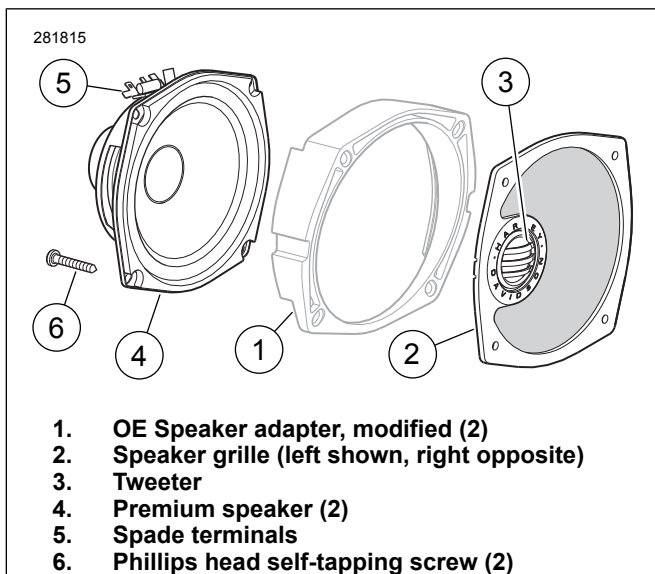

Figure 1. Boom! Audio Front Speaker Kit Components for Electra Glide and Trike
2. See Figure 1. Position the correct **new** speaker grille (2) against the face of the adapter (1) as shown, with the thick edge of the adapter **up**, and the tweeter (3) to the outboard side of the vehicle. Feed the tweeter wires out between the tweeter and adapter on the outboard side, routed through the notch in the adapter. Position a **new** speaker (4) against the rear face of the adapter as shown, with the spade terminals (5) pointed **up**.
4. Align the mounting holes in the speaker, adapter and grille. Use the two longer TORX® screws removed earlier to fasten all three components to the inner fairing through the two top holes. See Figure 1. Use a **new** Phillips head screw (6) from the kit in the lower outboard hole, capturing the fairing support brace under the screw head. The lower inboard hole is not used.